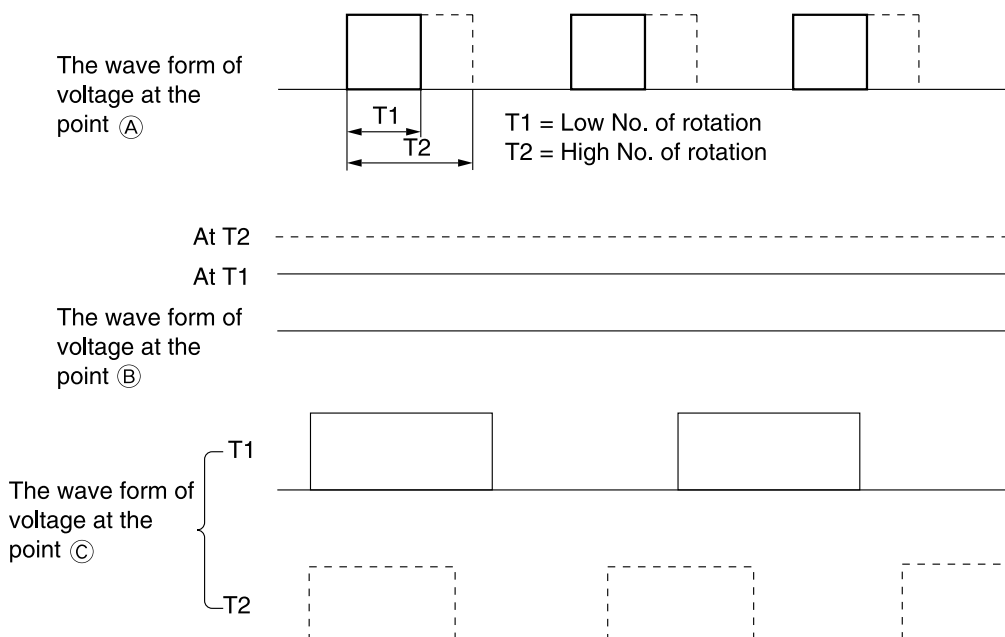

Fig. 6-2
- The 15.7 kHz PWM pulse shown in Fig.6-2 from the micro computer pin ④⑩ is output to point ①A. The width of this pulse changes with instruction number of rotations.